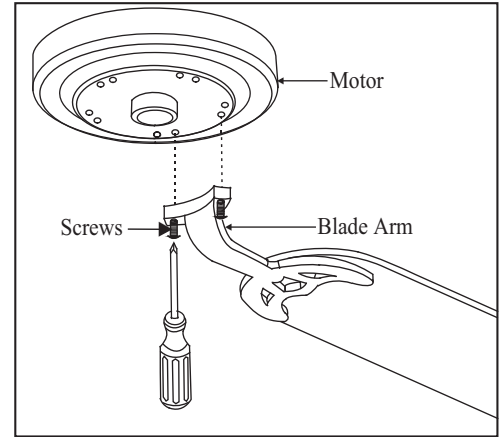

Figure 18
3. Fasten blade assembly to motor using the screws supplied. (Fig. 18)